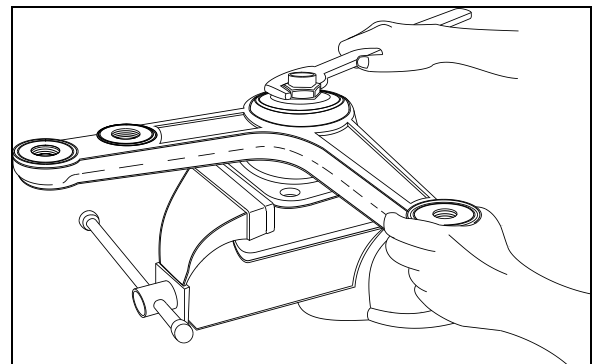

FIGURE 21: BELL CRANK
2. Remove the cap (Fig.21).
3. Remove the cotter pin, nut and tongue washer. Remove bearings, grease seal, bearing bushing and the bell crank or idler arm from its mounting bracket stud (Fig. 21).
5. Firmly tighten nut (Fig. 21).